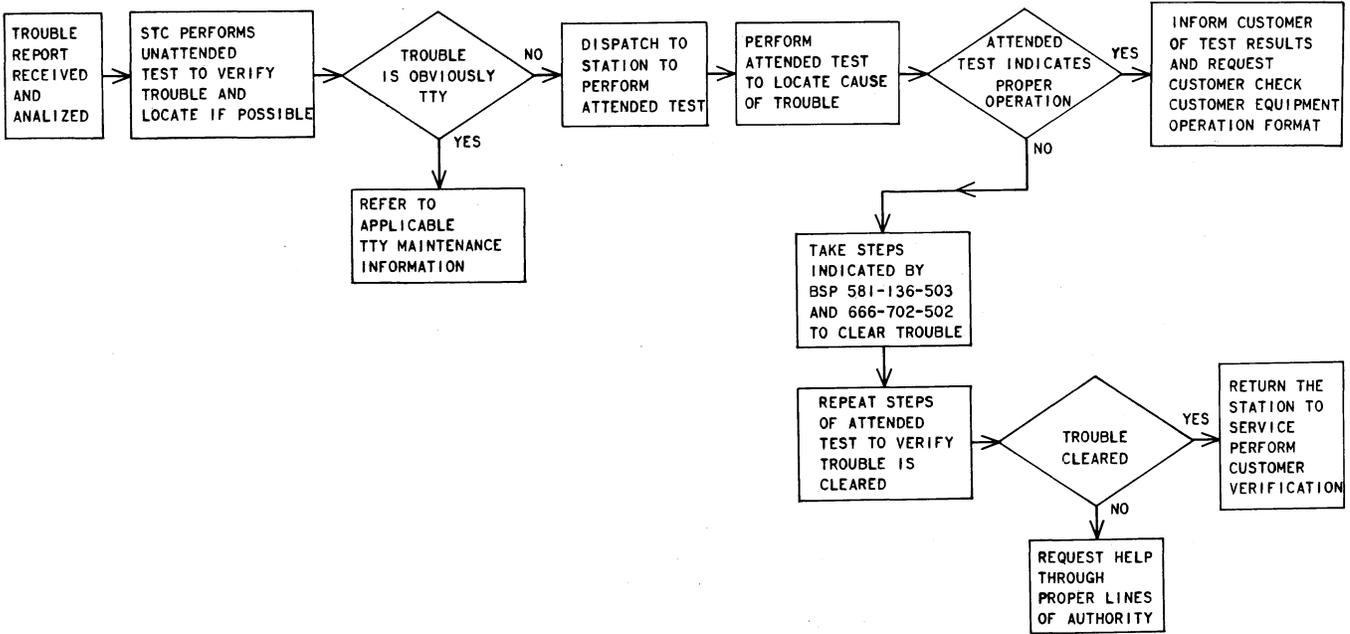

Fig. 5—Maintenance Flowchart
4.01 Maintenance of the FDX, 150-wpm 86B2 data station should be in accordance with the flowchart shown in Fig. 5. This flowchart is recommended for an organized trouble investigation with a minimum amount of time spent in locating the cause of the trouble reported by the customer. The tests referenced in Fig. 5 and in the following text are shown in the section entitled 86B2 Data Selective Calling Service—Full-Duplex—150 Word Per Minute Data Station—Test Procedures (581-136-503) and 86B-Type Data Selective Calling Service Serving Test Center (STC)—Test Procedures (666-702-502).